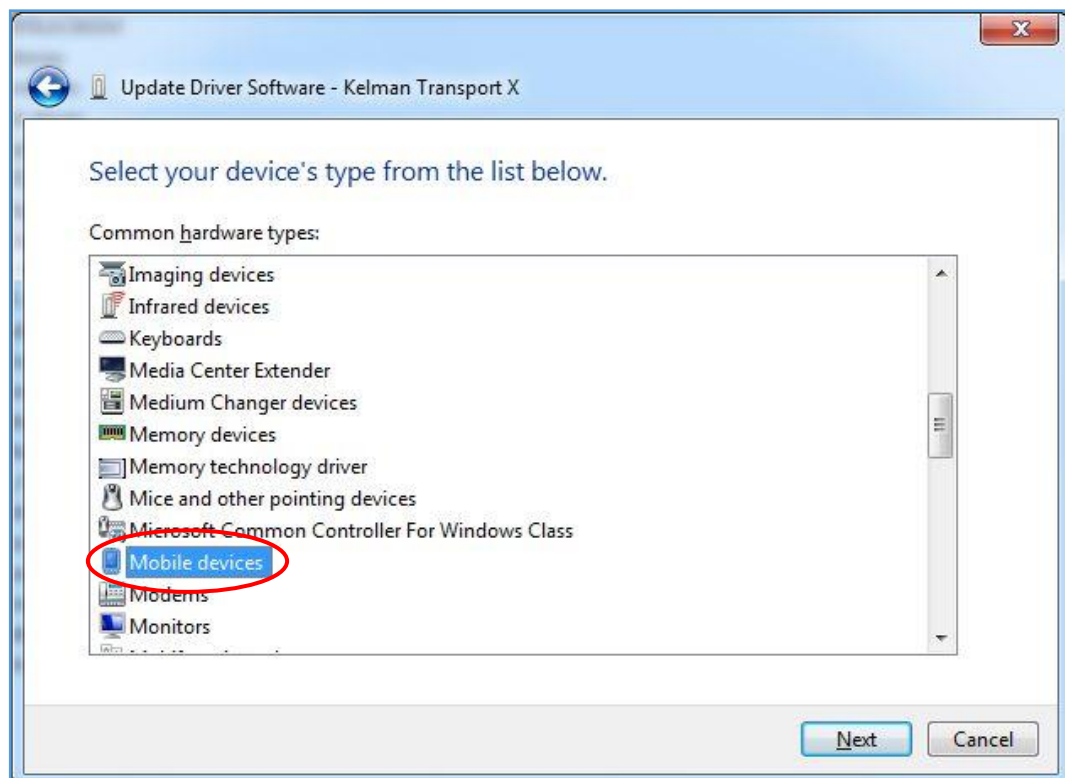

Figure A-13: Choose the device type
- Select **Mobile devices**, then click **Next** as shown in Figure A-13.